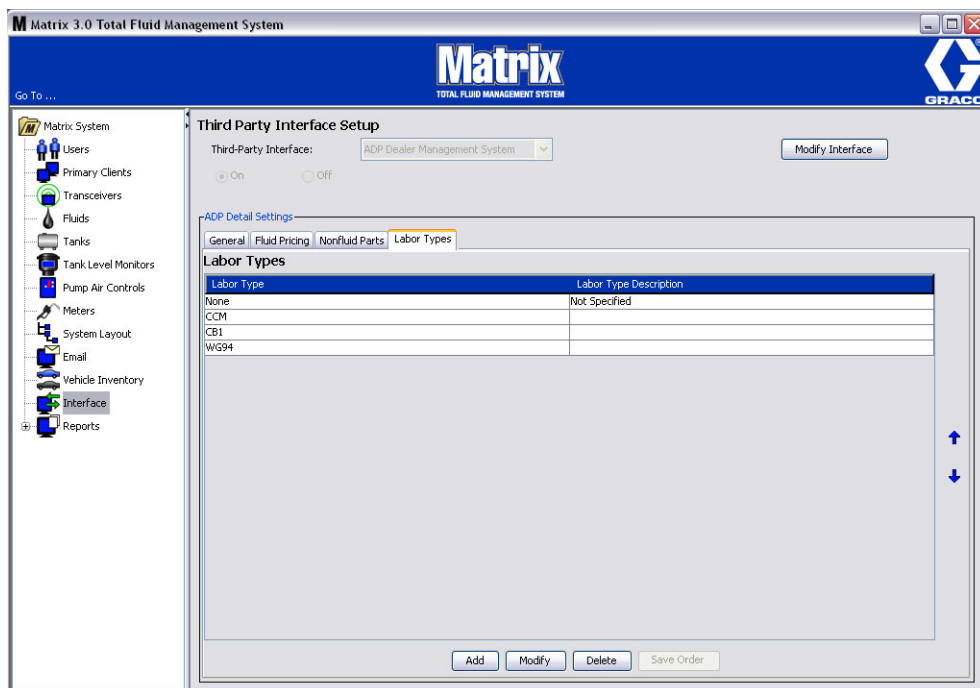

FIG. 197
2. Click the **OK** button to add the new Labor Type to the list displayed in the Labor Types column of the Labor Types Screen (FIG. 197, page 153).